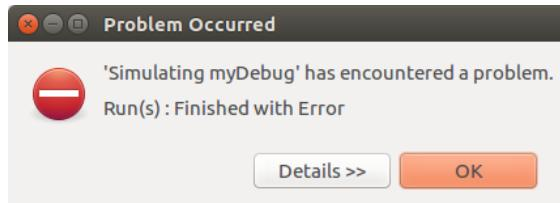

Figure 14: Simulation error message box
Step 5: The simulations stops with an error as shown in Figure 14. The following error message is also shown in the console tab. Unix systems return errno 128+signal when a signal is received. Thus, exit code 139 is signal number 11 which is SIGSEGV (invalid memory reference). This means that the program is using an invalid pointer. We are accessing a variable using the NULL pointer TraCI.